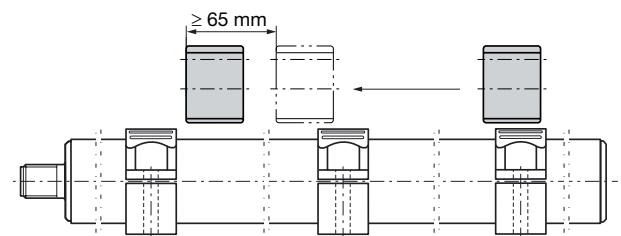

Fig. 4-3: Minimum spacing when using multiple magnets
- When using multiple magnets a minimum separation of 65 mm must be maintained between them (see Fig. 4-3).